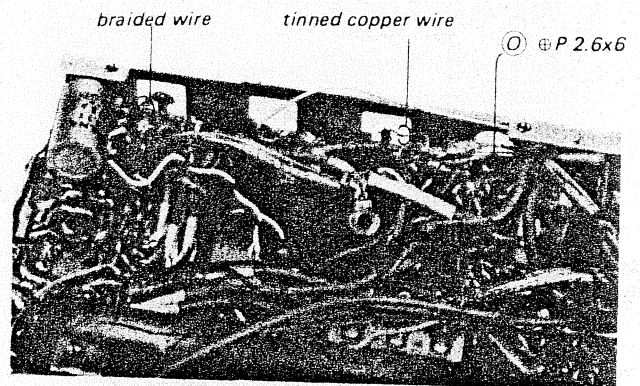

Fig. 2-12
15. Unsolder the braided wire and tinned copper wire indicated in Fig. 2-12.
16. Remove the screw ($\oplus$ P 2.6x6) marked $\textcircled{O}$ in Fig. 2-12.